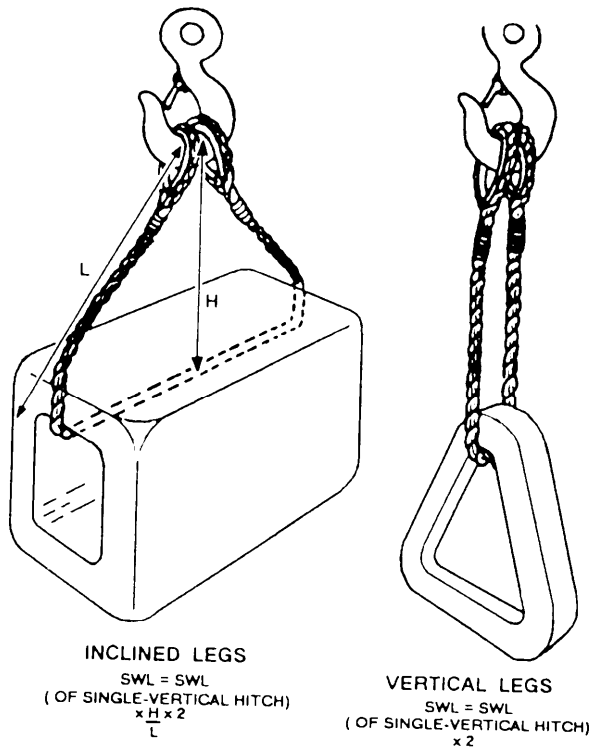

Figure 13-37.—Determination of single-basket hitch sling capacity.
**Single-basket hitch** (fig. 13-37): For vertical legs,  $SWL = SWL \text{ (of single-vertical hitch)} \times 2$ .